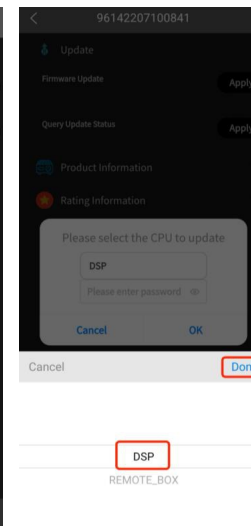

Figure 2
6. Enter the password provided by the supplier in the input field and then click "OK". The dialog "Send update command success" will pop up, as shown in Figure 2. The firmware will start updating. Please wait until it is successfully updated. (Be sure to maintain good network conditions and ensure that the inverter is powered on during updating.)